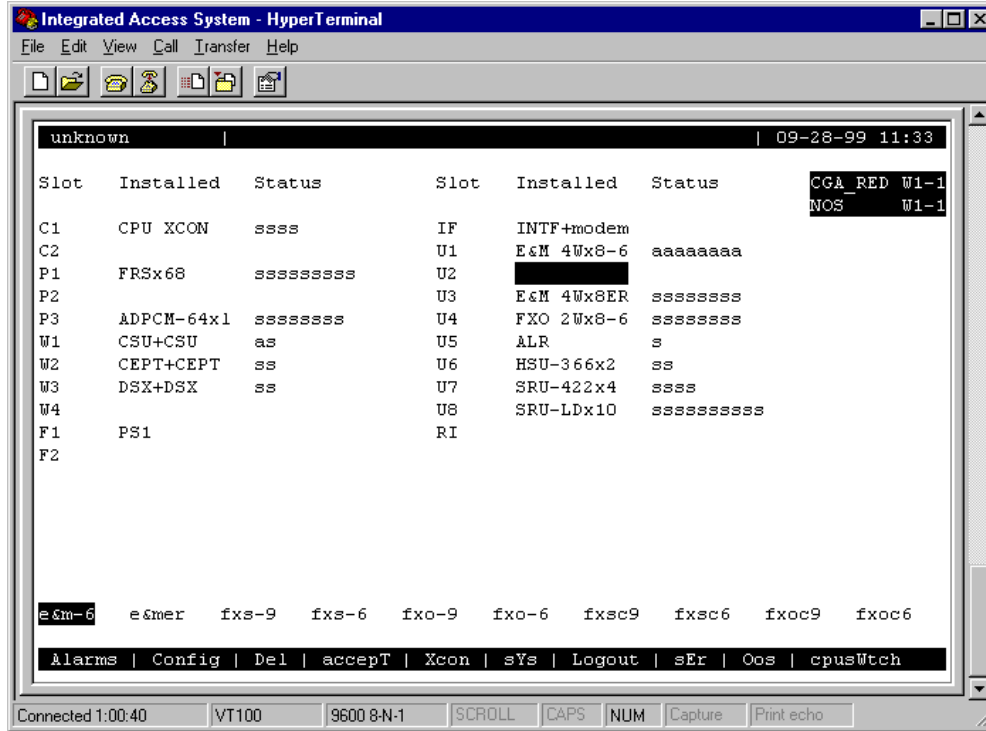

Figure 4-21. Typical Card Slot and Type Selection
2. Place the cursor on the first user card slot that will have a card. In Figure 4-21, slots U5 through U8 will be assigned to 30 time slots on the E1 WAN port.
- Select the type of voice card from the types listed above the bottom line of the screen, as shown in Figure 4-21. In that screen, **e&m-6** is chosen as the card type (E&M, 600 ohms).